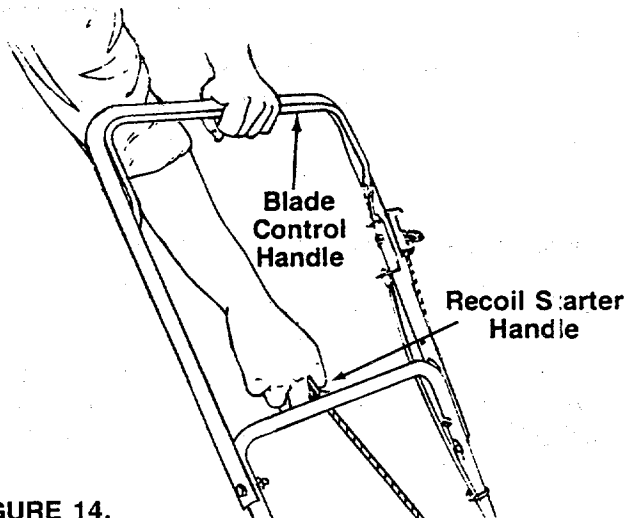

FIGURE 14.
4. Standing behind the unit, depress the blade control handle and hold it against the upper handle as shown. See figure 14.